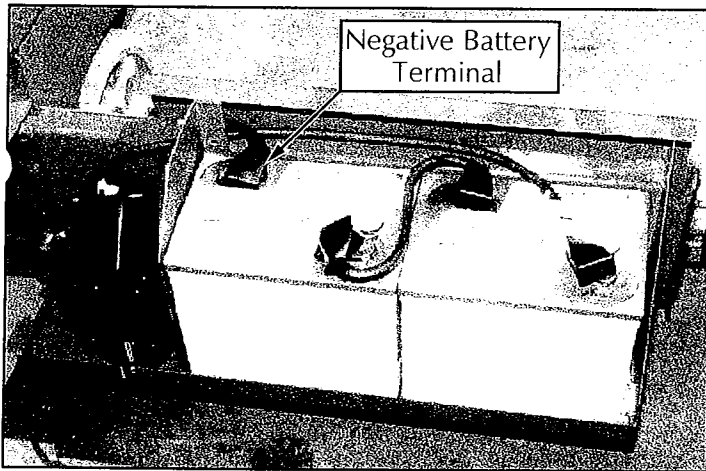

Figure 2-1: Left Chassis Module
4. Connect the negative battery lead terminal (Figure 2-1).
3. Disconnect the battery negative (-) lead from the battery terminal (Figure 2-1).